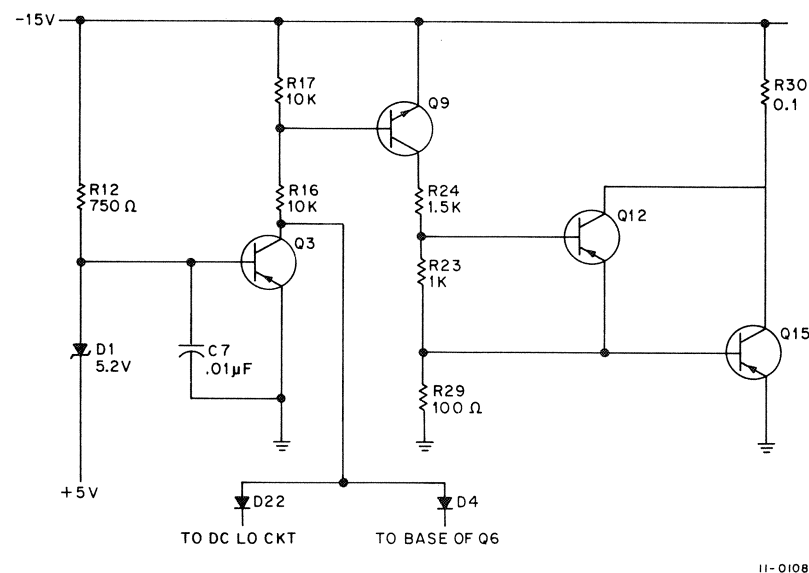

Figure 2-13 -15V Crowbar Circuit
2.4.2.4 -15V Crowbar Circuit – The -15V crowbar circuit (see Figure 2-13) includes the +5V low-sensing circuit (Q3) to trigger the crowbar. The collector of transistor Q3 is connected through diode D22 to the DC LO circuit, and through diode D4 to the base of transistor Q6, to implement turn-off of the -15V regulator when transistor Q3 is conducting.